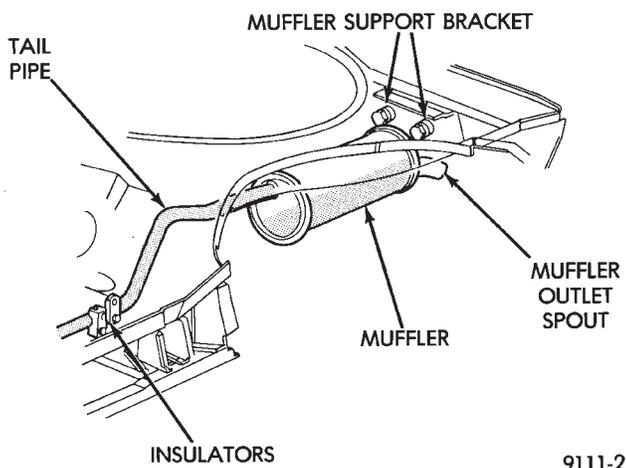

Fig. 5 Tail Pipe with Muffler—Typical
- (1) Raise vehicle on hoist and apply penetrating oil to clamp bolts and nuts of component being removed.
- (2) Tail pipes are integral with the muffler (Fig. 5). Remove clamp at slip joint. Separate at slip joint.